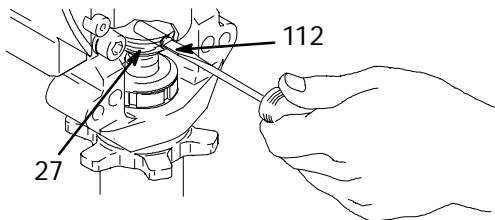

Fig. 17
5. Fig. 17. Use screwdriver: push retaining spring (27) up and push out pin (112) from connection rod cross link.
2. Fig. 17. Push pin (112) into hole. And push retaining spring (27) into groove all the way around connecting rod.